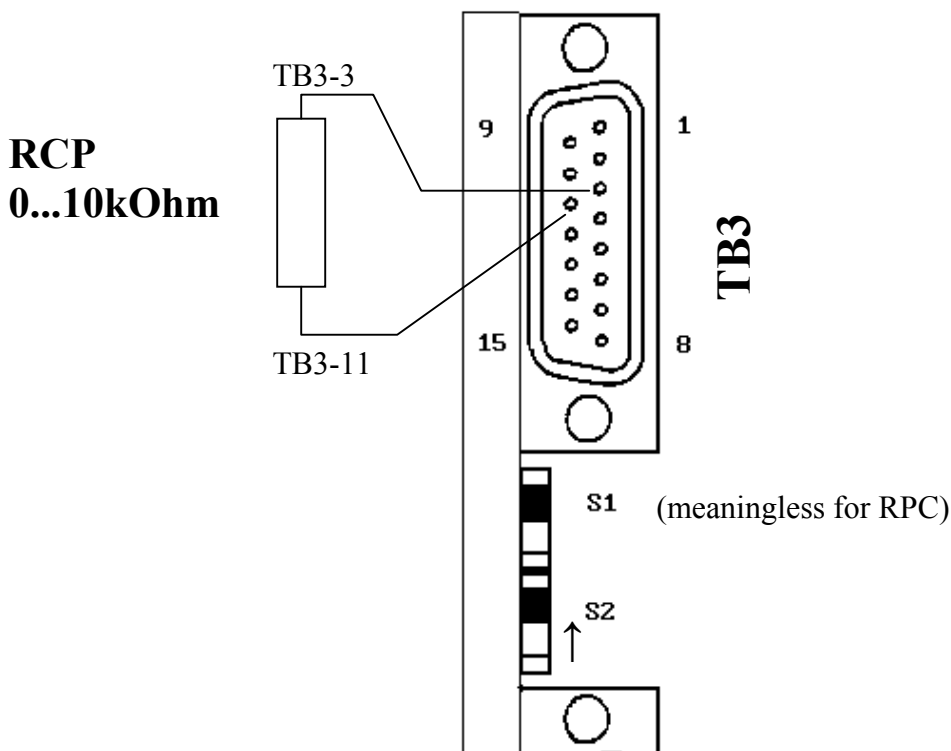

Fig.7
2. Connect the programming resistance between TB3-3 and TB3-11 (see fig.7 )